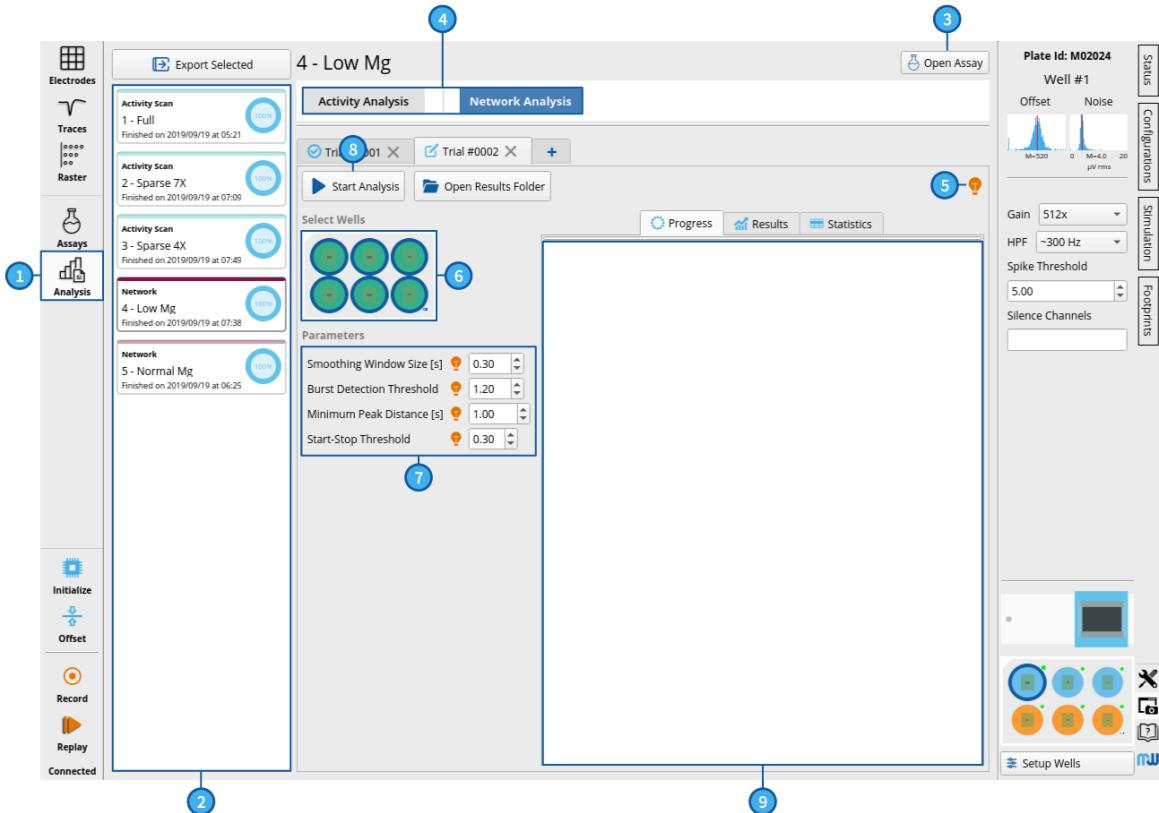
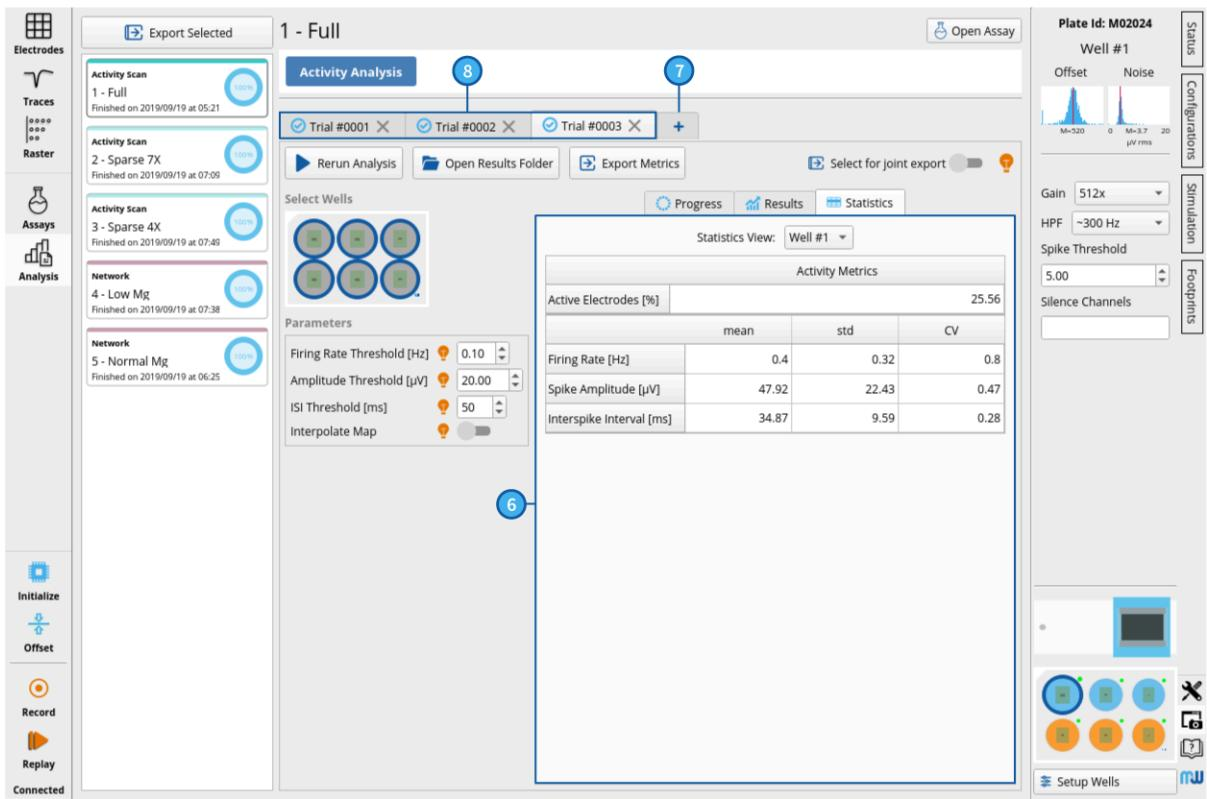
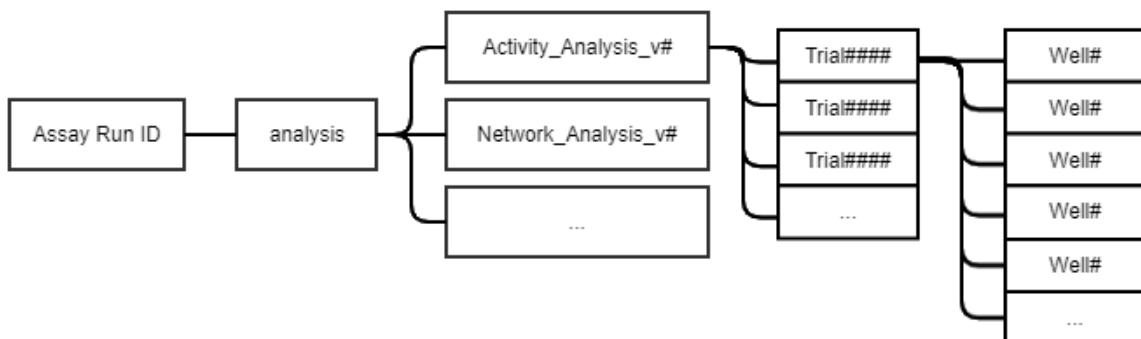
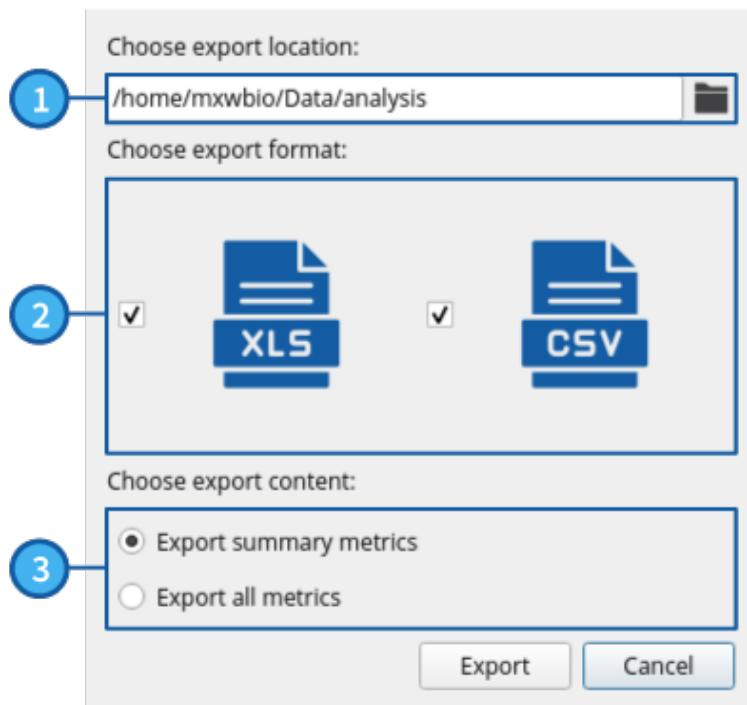

Figure 8.1. Analysis Tab Overview
Figure 8.4. Statistics Tab
Figure 8.5. Analysis Folder Hierarchy
Figure 8.7. Choosing Single-Trial Export Settings
(3) Open Results Folder
All figures displayed in the Results Tab and the table shown in the Statistics Tab (Figure 8.4 (6)) are automatically saved in PNG format to the corresponding analysis folder for each well (see Figure 8.5). By clicking the button **Open Results Folder**, the folder opens up directly.
(4) Rerun Analysis
(5) Open a New Analysis Trial
Clicking on the **Plus** icon creates a second Analysis Trial or multiple Analysis Trials (Figure 8.4 (7)) for the same dataset. This allows the user to keep previous analysis results in order to compare them with results obtained from using a different set of parameter values. The previous analysis trial is not overwritten. As illustrated in Figure 8.5, a sub-folder is created in the analysis folder tree for every new Analysis Trial.
A window will appear, where the data saving path can be set (Figure 8.7 (1)) and the export format can be chosen (Figure 8.7 (2)). In addition, one can select (Figure 8.7 (3)) whether to export all metrics from an analysis (well, electrode, and spike levels for Activity Analysis and well and burst levels for Network Analysis) or just the summary metrics (well level only; shown in the Statistics Tab (Figure 8.4 (6))). Note that for Excel format, exporting all metrics from an Activity Analysis of a highly active culture (as in the example shown in the Figures) may take several minutes, since information for each detected spike will be saved. If multiple wells were selected for analysis (Figure 8.1 (6)), data from all the selected wells will be saved together.